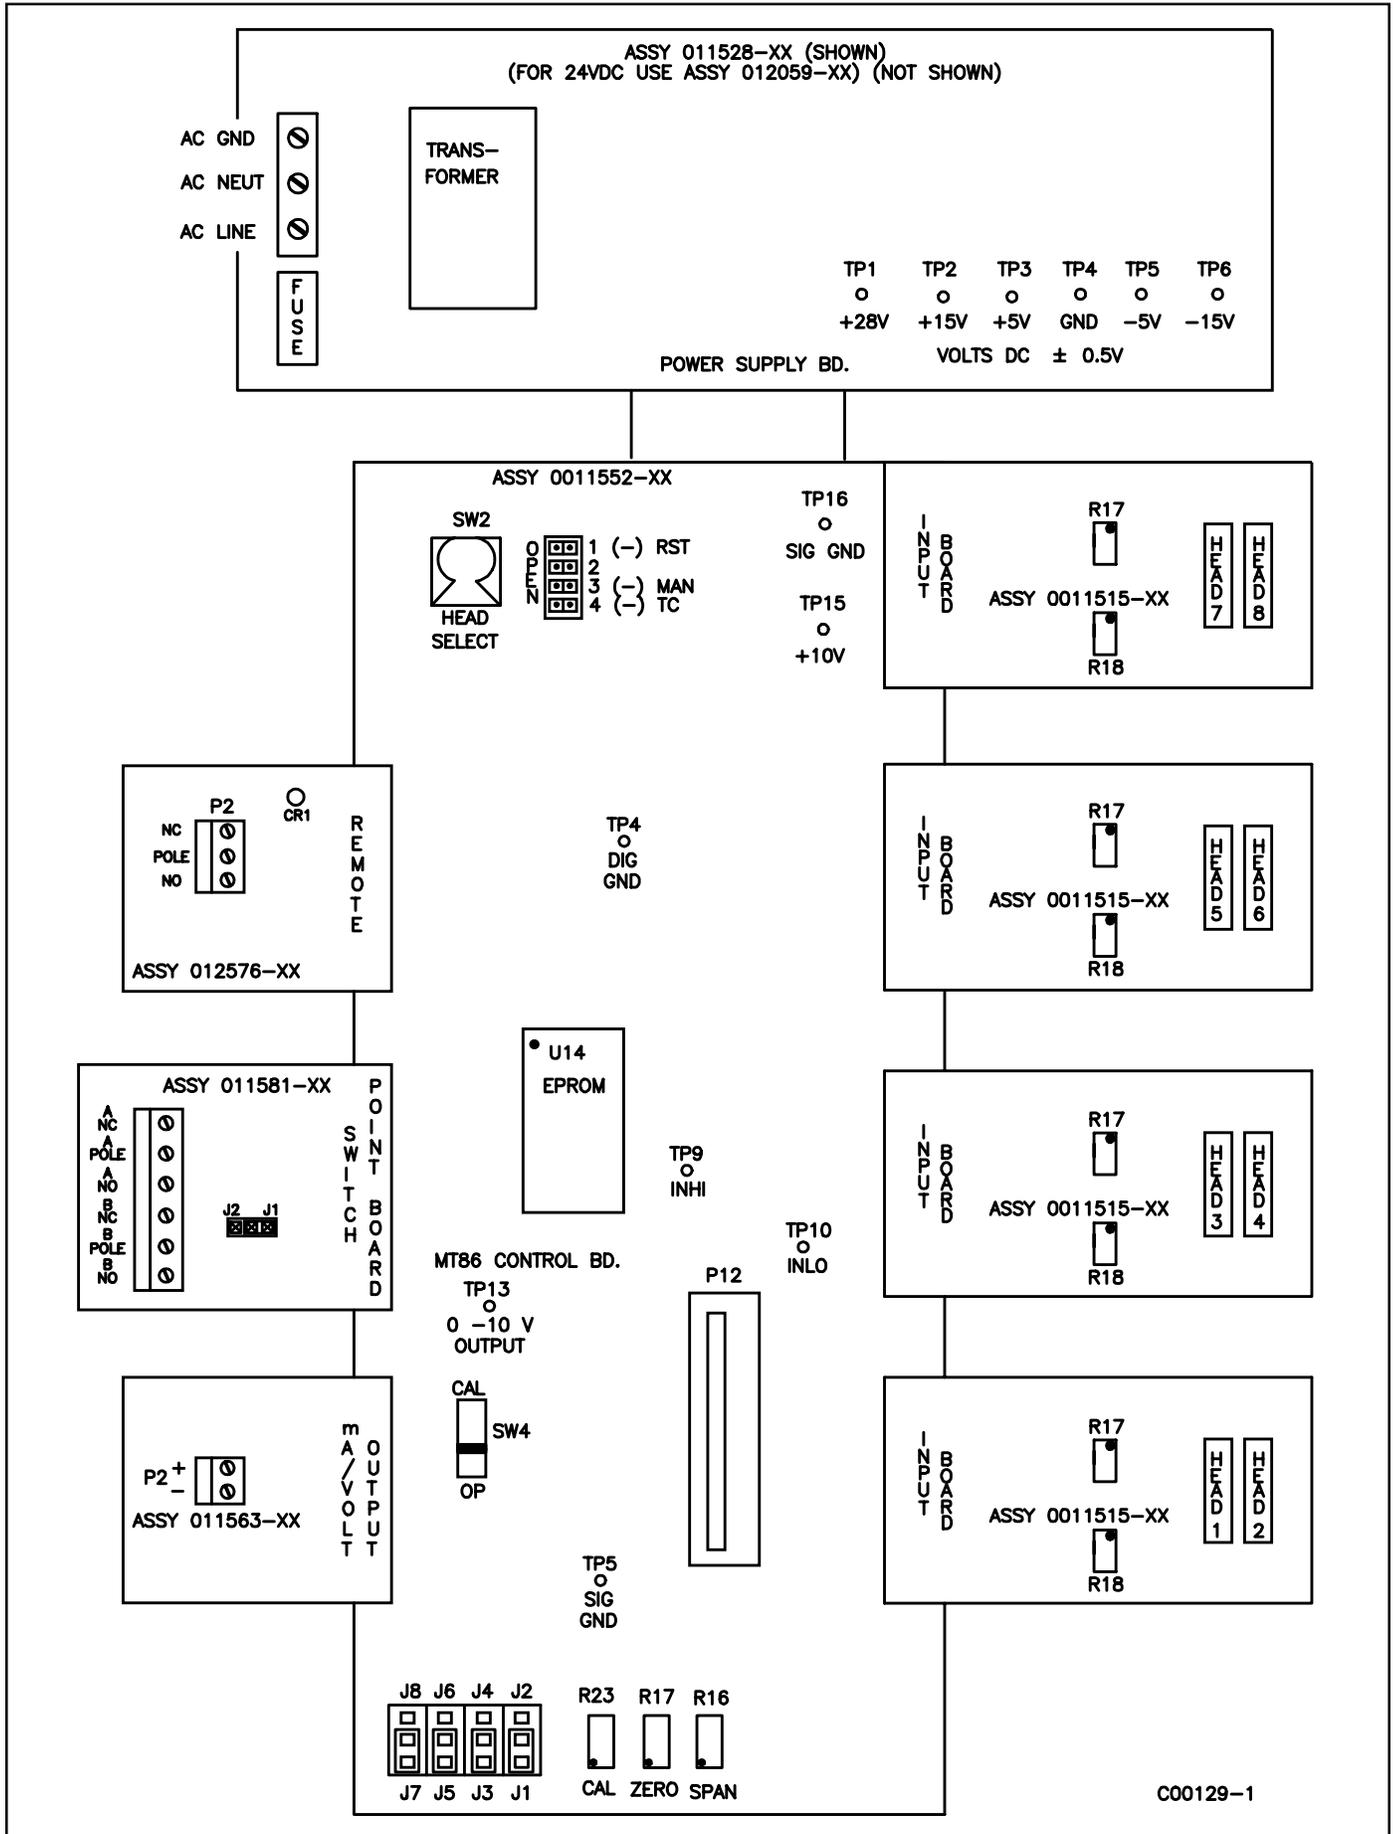

Figure 5-2. Electrical Assembly Layout
Check the power supply voltages, using the test points provided. See Table 5-3 and Figure 5-2 for the proper operating voltages. If the voltage checks are correct, the power supply is functioning properly.
2. Set the calibration switch (SW4) on the main circuit board to the CAL position. See Figure 5-2.